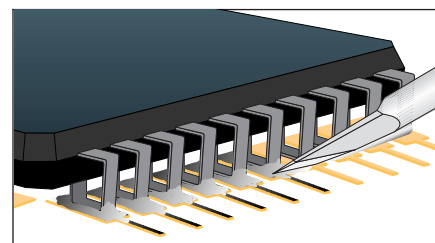

Figure 5 Solder Leads
9. Place tip on the first lead/land junction of the side. Observe solder melt. Slowly move tip along remaining lead/land junctions to form proper solder fillets at each joint. (See Figure 5.)